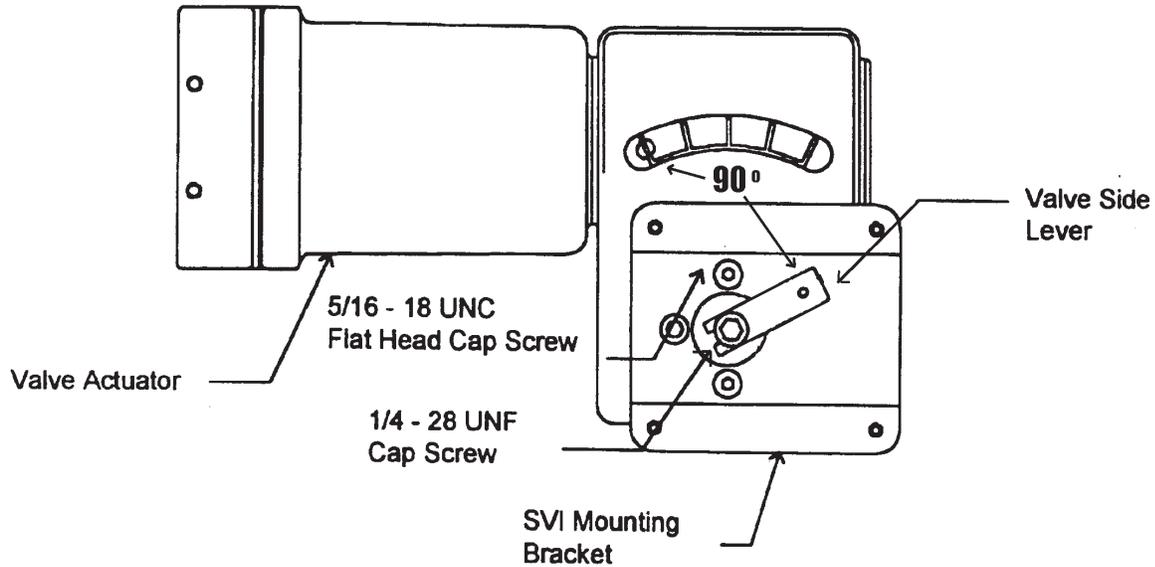
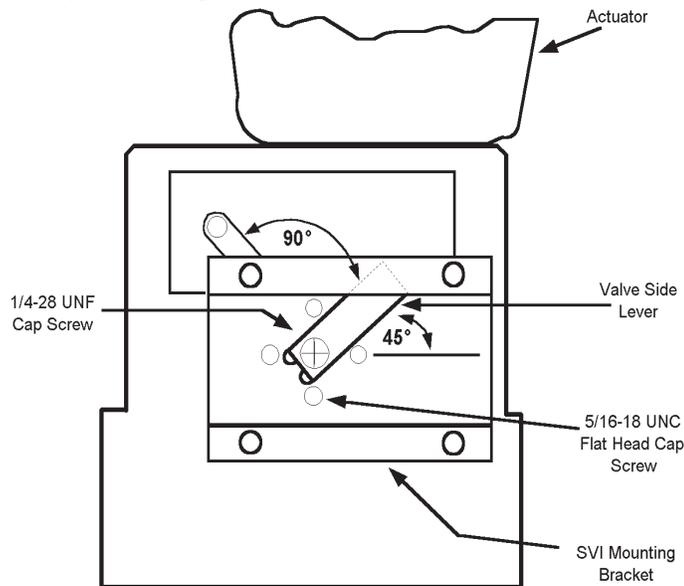

Figure 12. SVI Rotary Mounting Bracket with Valve Side Lever on Camflex Valves
Figure 13. SVI Rotary Mounting Bracket with Valve Side Lever on Ball and Butterfly Valves
1. Mount the SVI mounting bracket to the valve actuator using two (2) 5/16 - 18 UNC flat-head cap screws. Unless otherwise specified the SVI will be mounted assuming the actuator/valve will be mounted in the normal upright position (i.e., lettering on actuator right side up). This requires the long end of the mounting bracket to be to your right when facing the actuator. Note that the mounting bracket for ball and butterfly valves differs slightly from the Camflex and Varimax bracket but the mounting is identical.
2. Bolt the valve side lever to the valve position take-off shaft using a 1/4 - 28 UNF cap screw, spacer and washer. The spacer goes between the take off shaft and lever, and the washer under the head of the cap screw. On Camflex and Varimax valves, orientate valve side lever 90° from valve position indicator as shown in Figure 12 and securely tighten cap screw. On ball and butterfly valve actuators, orientate the lever so it is midway between the two bracket mounting holes (45° from horizontal) as shown in Figure 13 and tighten cap screw. Alternatively, for all rotary mountings, the actuator can be pressurized to mid-stroke and lever secured in a horizontal position.